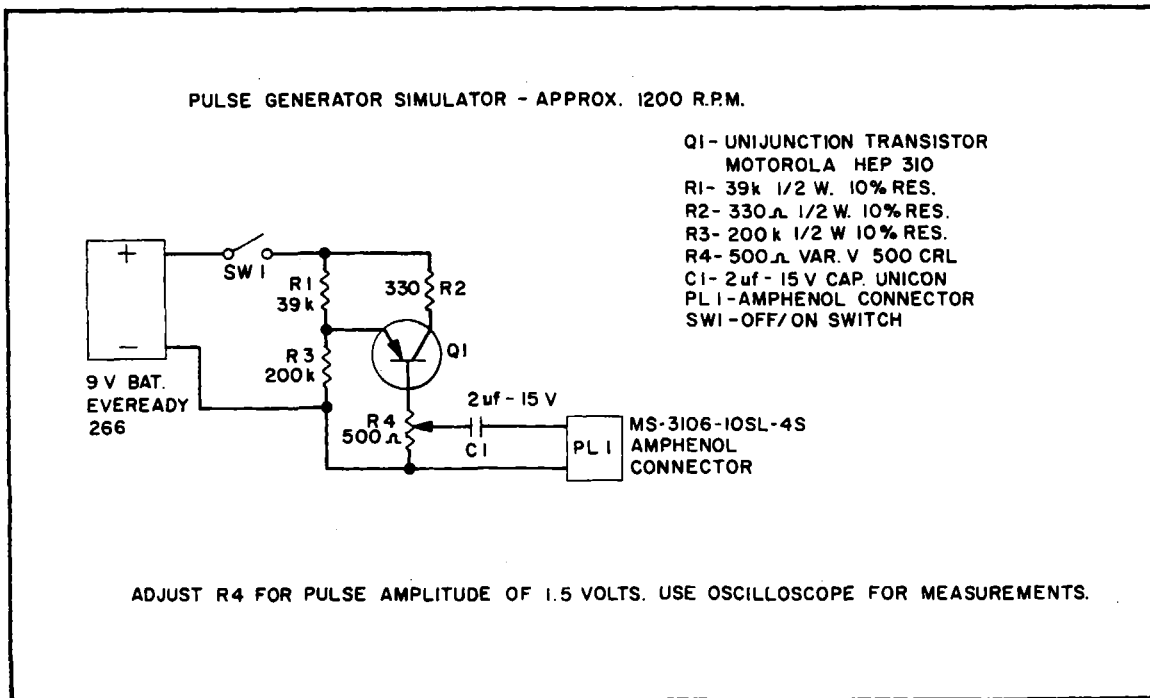

Figure 14-51. Pulse Generator Simulator
c. Reconnect plug PL3 and visually observe if both glow lamps light with the master engine turning at near cruising RPM. A pulse generator simulator may be used according to paragraph 14-120 and Figure 14-51.